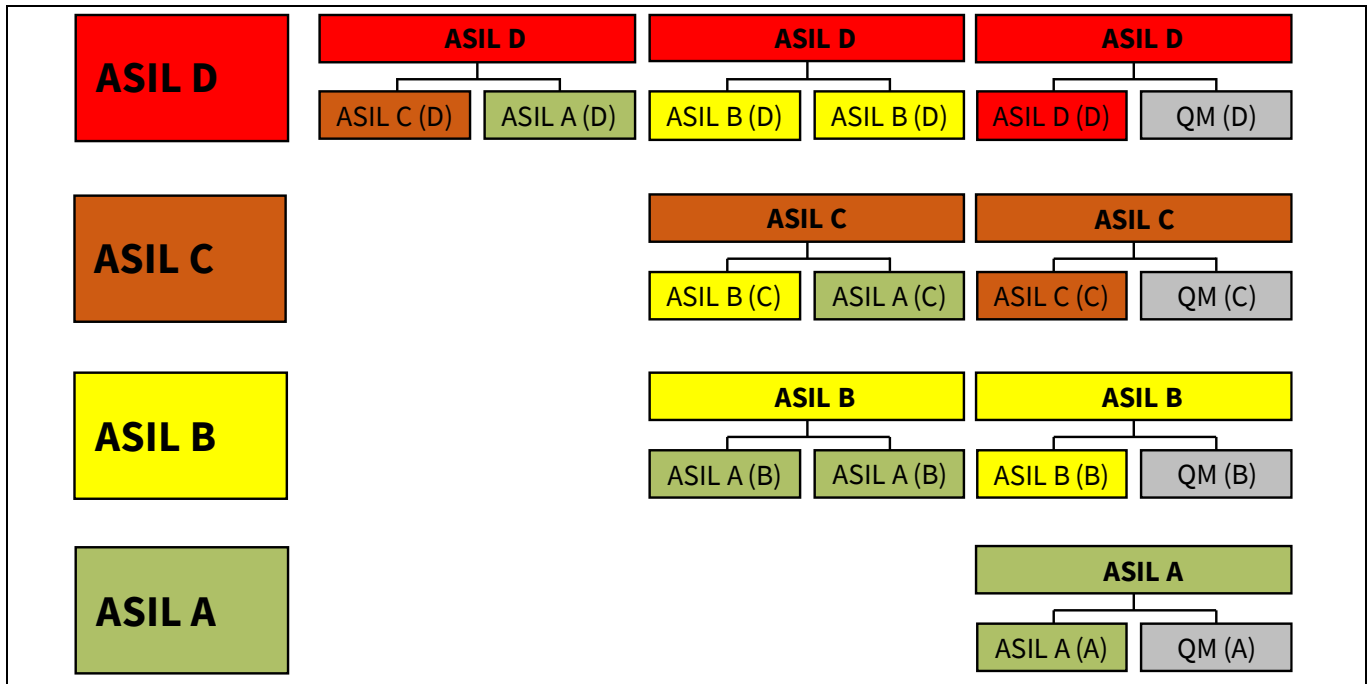

Figure 5 Automotive ASIL decomposition
Under certain circumstances, the ASIL can be lowered through ASIL decomposition. The standard describes the ASIL decomposition procedure as a technique to reduce the criticality of a functional safety requirement by splitting it into multiple redundant requirements, each with a lower ASIL value. Figure 5 shows the possible decomposition combinations as illustrated in the standard. The notation ASIL X(Y) is used to track the original functional safety requirement and to ensure that the proper system-level analysis is performed at ASIL Y level while using the decomposed ASIL X levels.